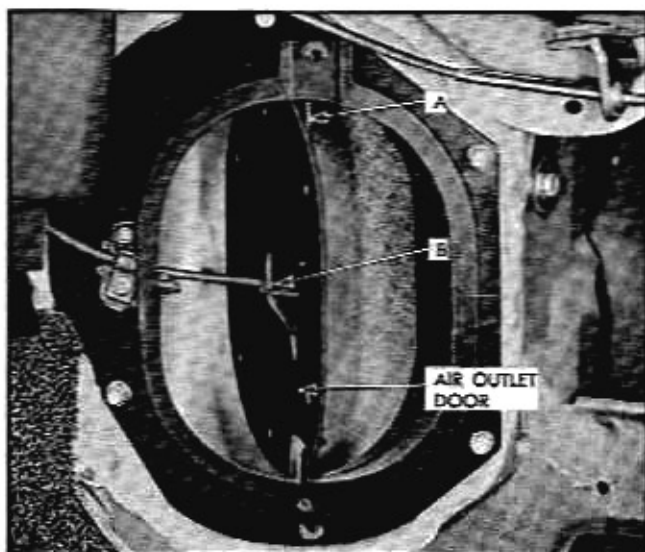

Fig. 4-3 Pontiac—Air Outlet Door
2. Remove end of control cable from pin indicated in Figs. 4-3 and 4-4.
2. Remove screws securing outlet door housing to shroud panel as shown in Figs. 4-3 and 4-4 and remove housing.